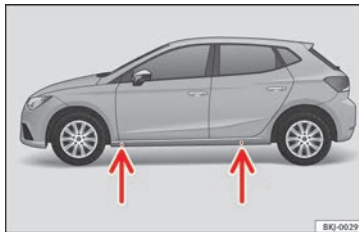

Fig. 68 Jack position points.
- Find the support point on the strut (sunken area) closest to the wheel to be changed»»» Fig. 68.